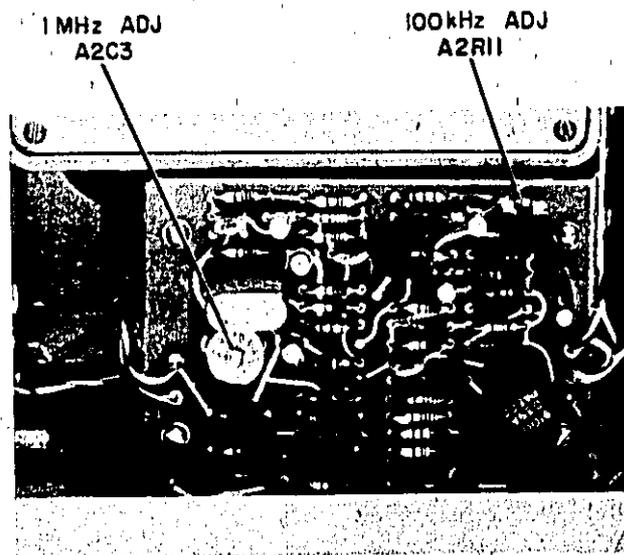

Figure 5-9. Calibrator Adjustment Locations
- d. Adjust trimmer capacitor A2C3 until electronic counter indicates 1 MHz. See Figure 5-9 for adjustment location.
- f. Adjust potentiometer A2R11 until Electronic Counter indicates 100 kHz. See Figure 5-9 for adjustment location.